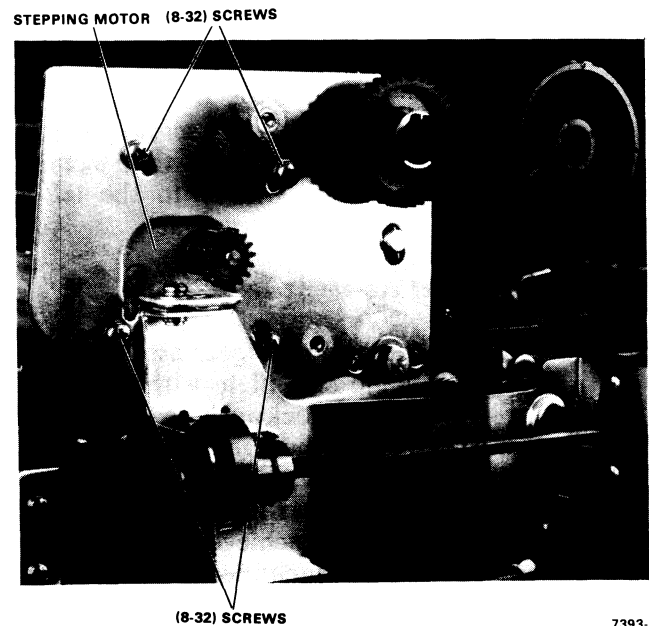

Figure 7-36 Stepping Motor Removal
6. Remove the four (8-32) screws, flat washers, lockwashers, and hex nuts that secure the stepping motor to the left-hand side plate. Set the stepping motor aside (Figure 7-36).